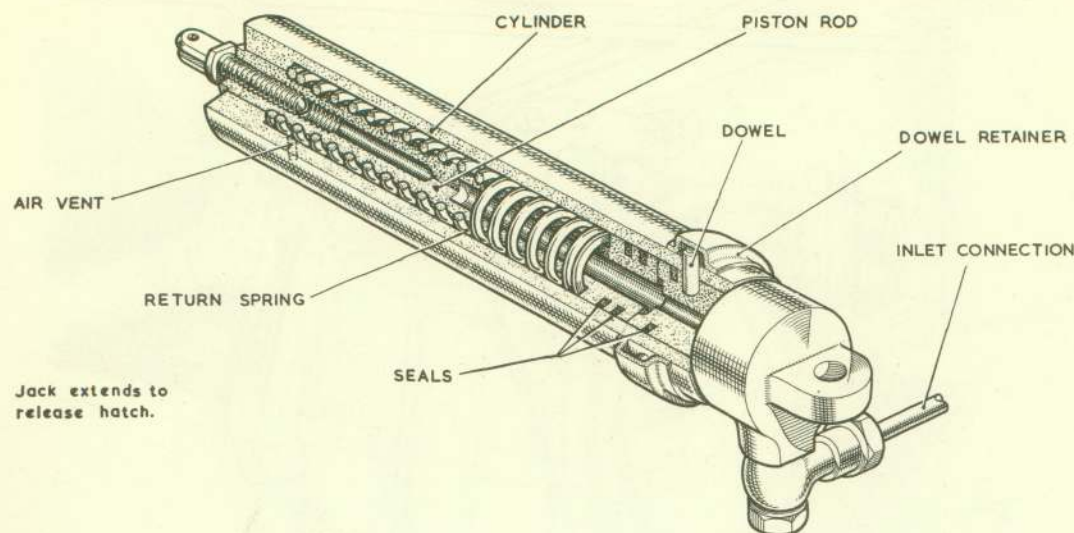

Fig. 7 Hatch jettison jack
5. The canopy hatch, which in normal circumstances is locked and released manually, can be jettisoned in an emergency by using hydraulic power to release the hatch fasteners. From the selector valve, a single pipe is led to a jack which is hydraulically operated in one direction only when the selector is pulled out; the return stroke is effected by a spring within the jack (fig. 7), when the selector lever is returned to the normal (in) position.